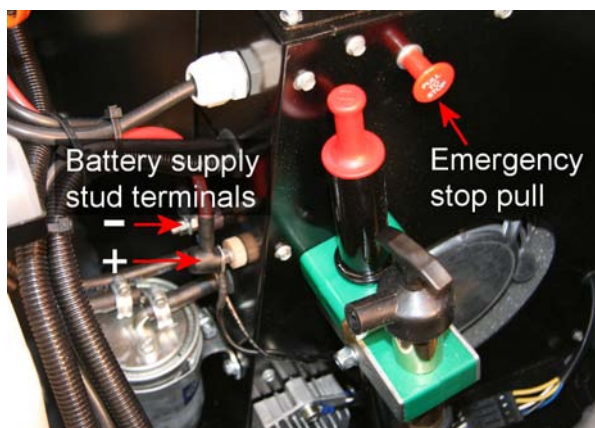

Fig 4-1 Battery test stud
5. Check the battery voltage with the ignition switch off. This can be measured between the battery test studs shown in Fig 4-1.